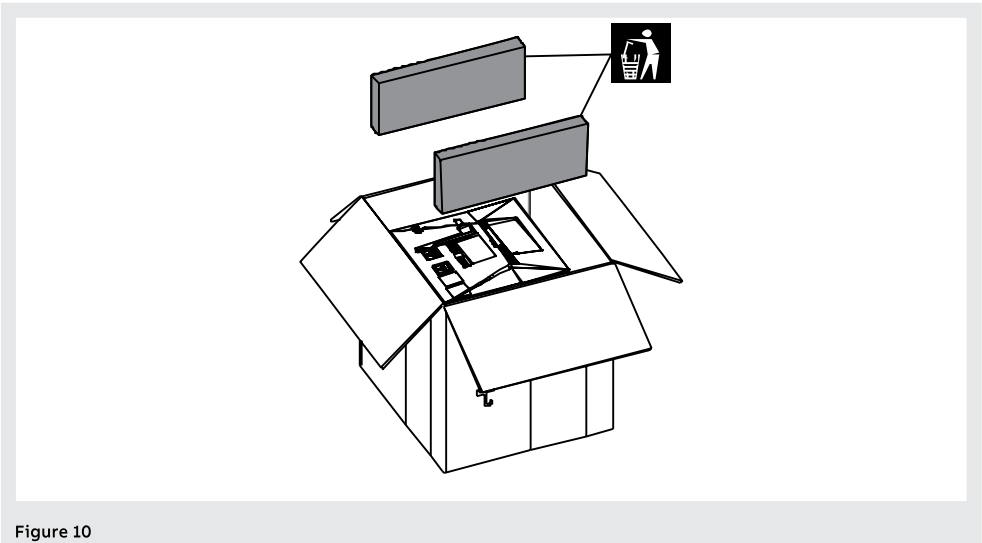

Figure 10
3. Remove the side containment protections from the packing box. See Figure 10.